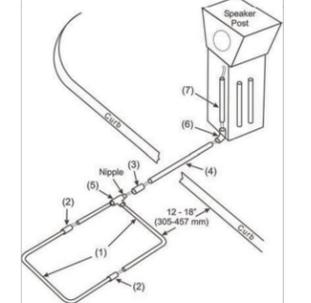
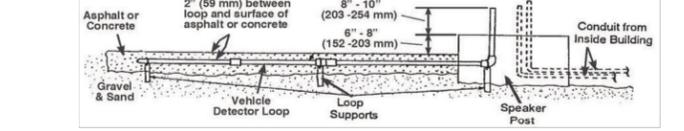

Figure 2. Loop layout and connections
Figure 3. Side view of loop in asphalt or concrete
- Remove the elbow coupling, Figure 2 (6), from the cable. The cable was threaded through the coupling for shipping only.
- Measure the distance from the loop to the outlet of the conduit that comes from the building into the speaker post or menu board to determine if the enclosed 3 foot (.91 meter) PVC loop extension reaches from the loop to the conduit as shown in Figure 2 (4). If it does, proceed to the next paragraph. If not, substitute a longer piece of 1/2 inch (12.7 mm) PVC pipe (not provided). Measure and cut the pipe to reach from the loop to the point where it must exit the ground into the speaker post.
- Flatten the loop (folded for shipping) as shown in Figure 2 (1). Fit the pipe securely into the couplings (2). Lay the loop flat in the drive-thru lane and position it as shown in Figure 2. Elevate the loop on supports that are anchored to the ground, as shown in Figure 3. Level the loop so it will be 2 inches (51 mm) or less from the paved surface when the concrete is poured. Fasten the loop to the supports with wire, so it will not float when the concrete is poured.
- Pull the loop wires through the sleeve coupling (3) and the PVC loop extension (4). Slide one end of the sleeve coupling (3) over the nipple on the corner fitting of the loop (5), and slide the end of the loop extension (4) into the other end of the sleeve coupling (3).
- Pull the loop wires through the elbow coupling (6) and the remaining 2 foot (.61 meter) piece of PVC (7). Slide the two ends (of 4 & 7) into the coupling (6), positioning the piece of PVC (7) so it points upward, out of the ground. Be certain it is next to and parallel to the outlets of the conduit coming into the speaker post or menu board from the building.